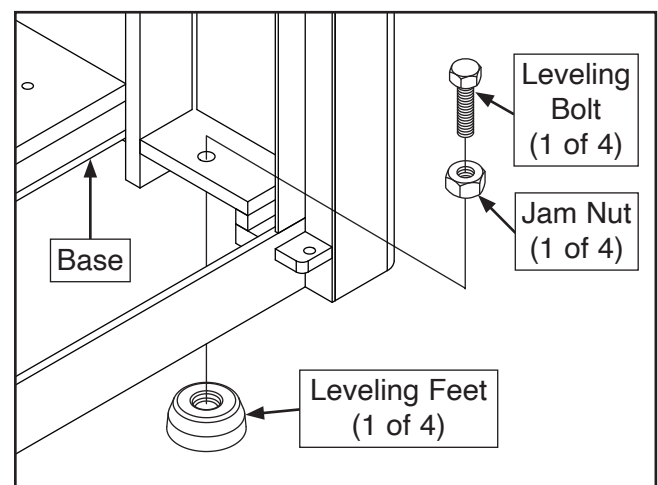

Figure 30. Location of leveling feet and fasteners (maintenance door removed for clarity).
1. Ensure pre-installed M12-1.75 x 30 leveling bolts and M12-1.75 jam nuts are threaded into base the same amount (see **Figure 30**).
2. Position (4) leveling feet beneath leveling bolts (see **Figure 30**) and slowly lower machine onto feet.